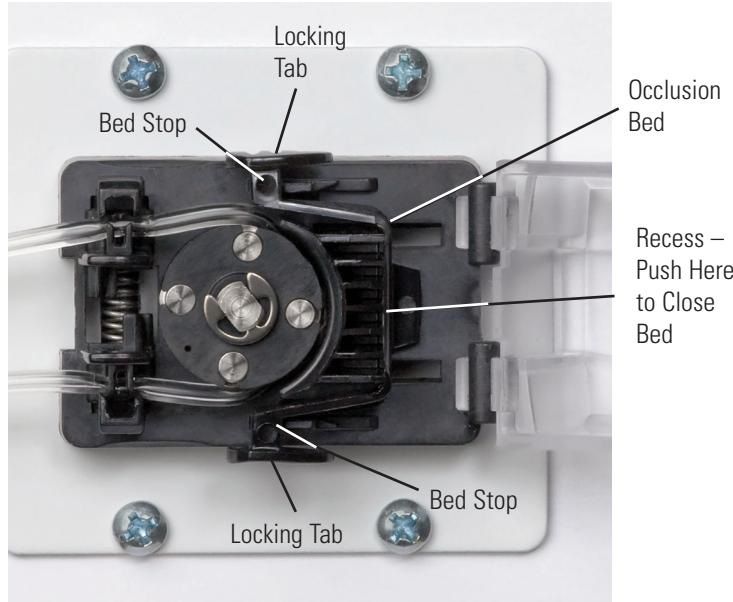

Figure 2-2. Closing Occlusion Bed
5. Close the occlusion bed by pushing up on the recessed area at the bottom, Figure 2-2, until the **Locking Tabs** snap into place against the **Bed Stops**, Figure 2-2, on the housing.